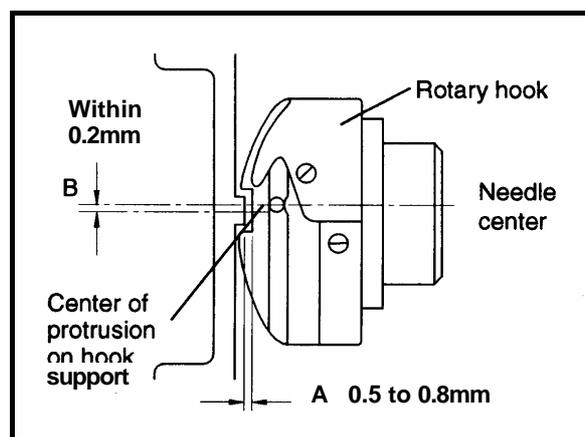

FIG.1
- (1) Remove the table set.
- (2) Remove the needle plate.
- (3) There must be a clearance of 0.5 to 0.8mm between the hook support and the rotary hook. (Fig.1)
- (4) Distance B (clearance between the needle center and the center of the protrusion on the hook support) must not exceed 0.2mm. (Fig.1)